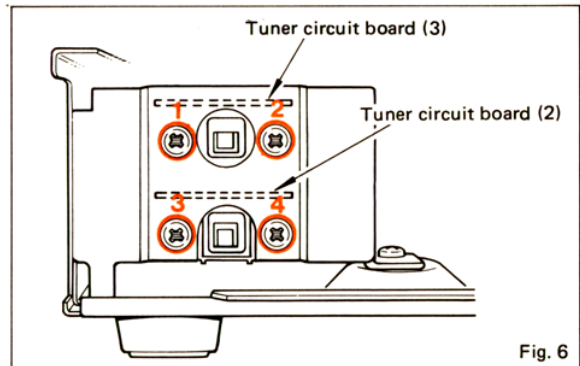

Fig. 6
- 3) Remove screws ① through ④ in Fig. 6, and then remove the tuner circuit boards (2) and (3).